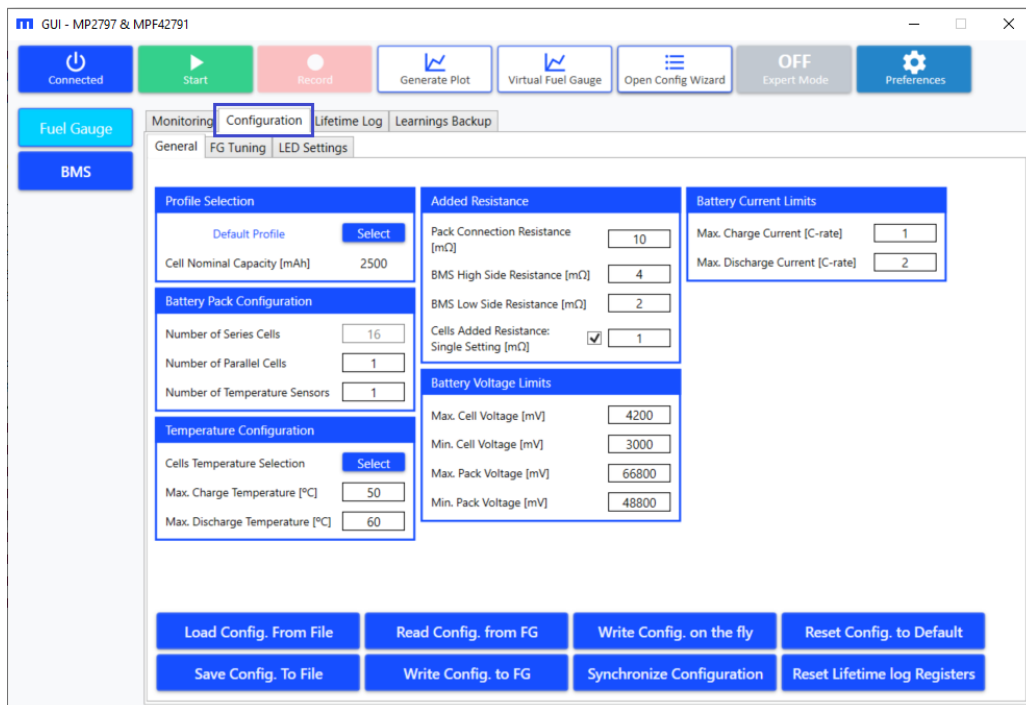

Figure 37: Fuel Gauge Configuration
2. Select the Configuration tab (see Figure 37 on page 30). There are three sub-tabs under the Configuration tab: General, FG Tuning, and LEDs Settings.
2. Select the Configuration tab (see Figure 37 on page 30).